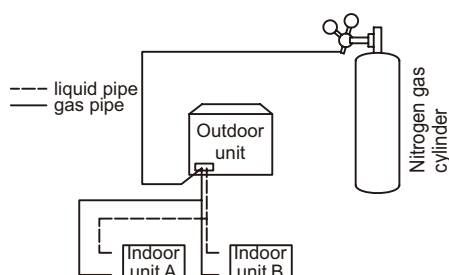

Fig.5.34
4. Use blind plugs to block all liquid (gas) side openings, except for the opening at the indoor unit which is furthest from the outdoor units ("Indoor unit A" in Fig.5.34).